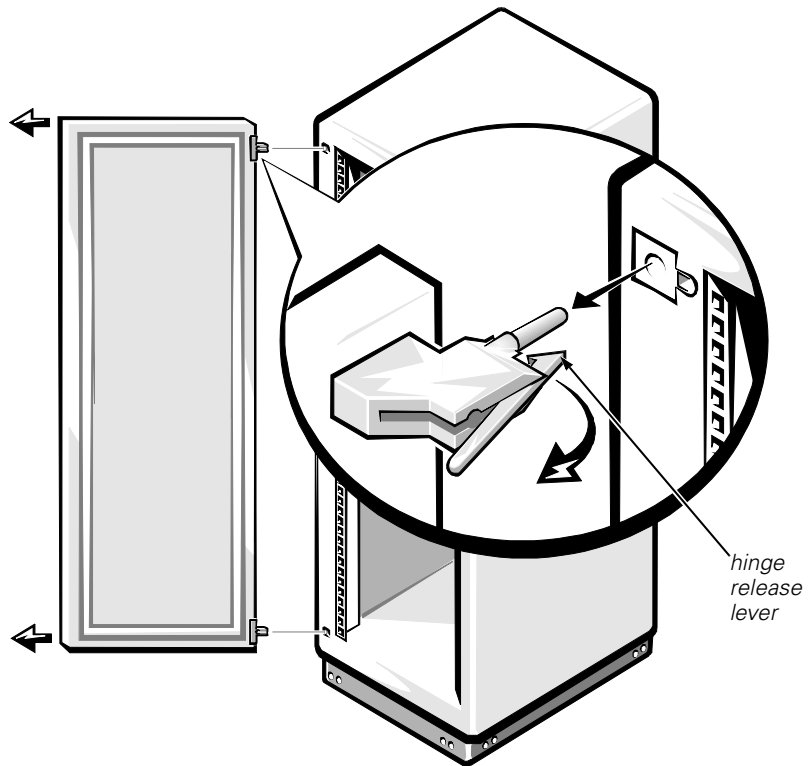

Figure 1-12. Removing the 42-U Rack Doors
2. Remove the front door from the rack as shown in Figure 1-12.